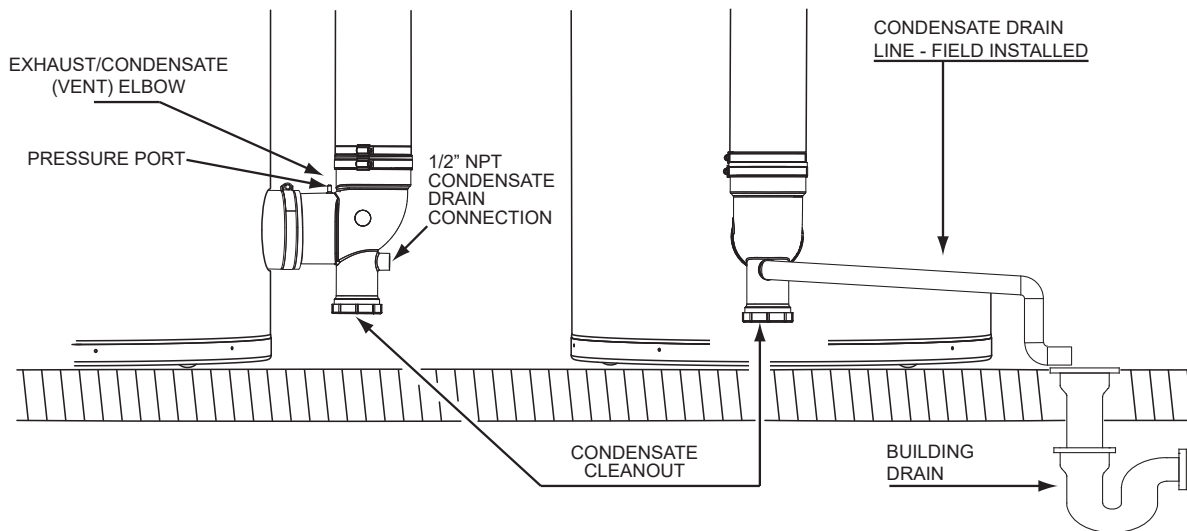

Figure 41. Condensate Drain Installation
3. Terminate the condensate drain piping near the drain. See **Figure 41**.